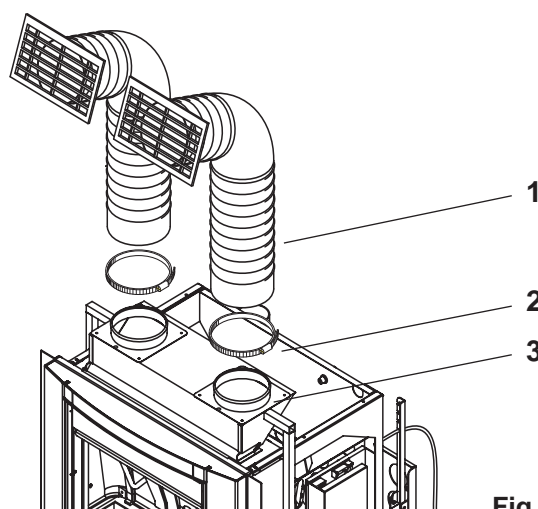

Fig. 6.4.1
Take the flexible pipe by the ends and extend it, rotating it at the same time (Fig. 6.4.1).
Attach the pipe (1) to the collars (3) with the clamps (2) (Fig. 6.4.1).